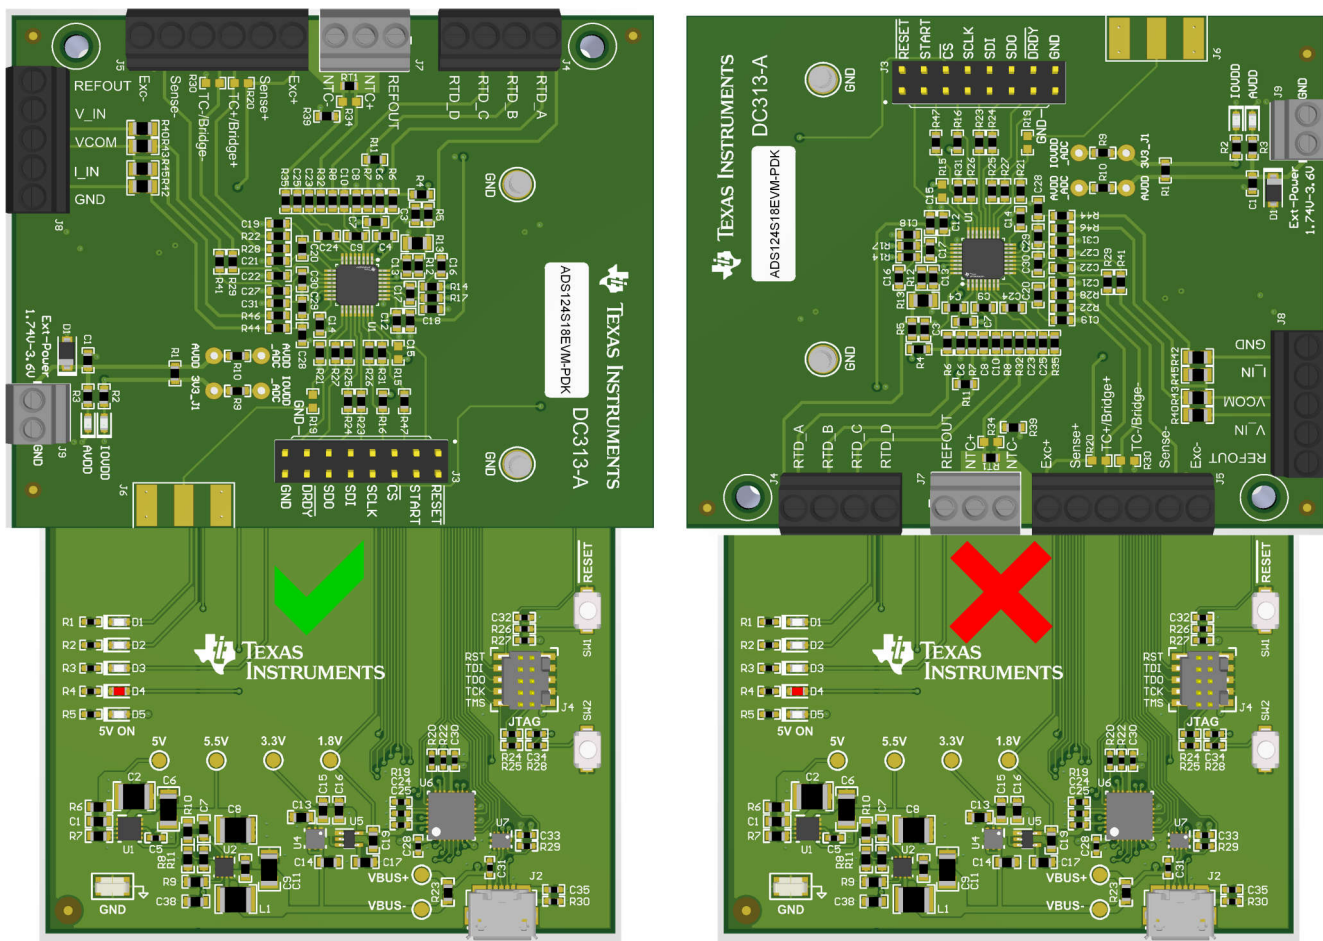

Figure 1-2. Connecting the ADS124S18EVM to the PAMB Controller Card
2. If the PAMB controller card and the ADS124S18EVM are not already assembled, connect the ADS124S18EVM to the PAMB controller card as shown in the left image in Figure 1-2.